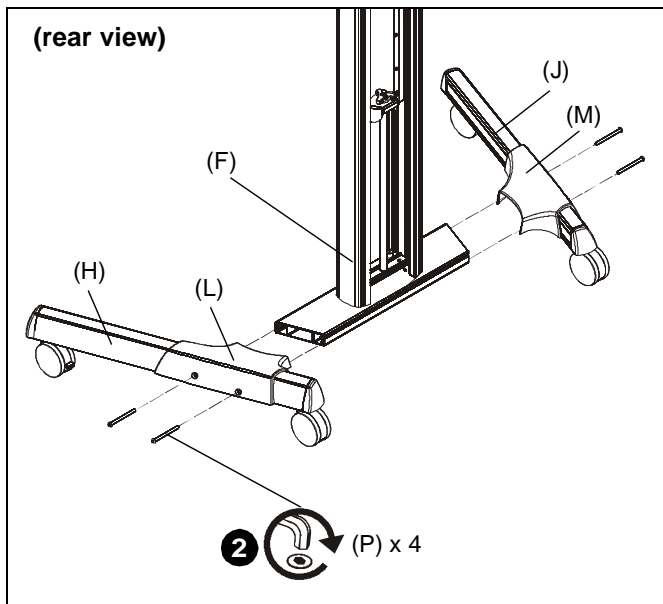

Figure 2
2. Use four 5/16-18 x 3/4" button head cap screws (P) to secure legs (H and J) and covers (L and M) to column assembly (F). (See Figure 2)